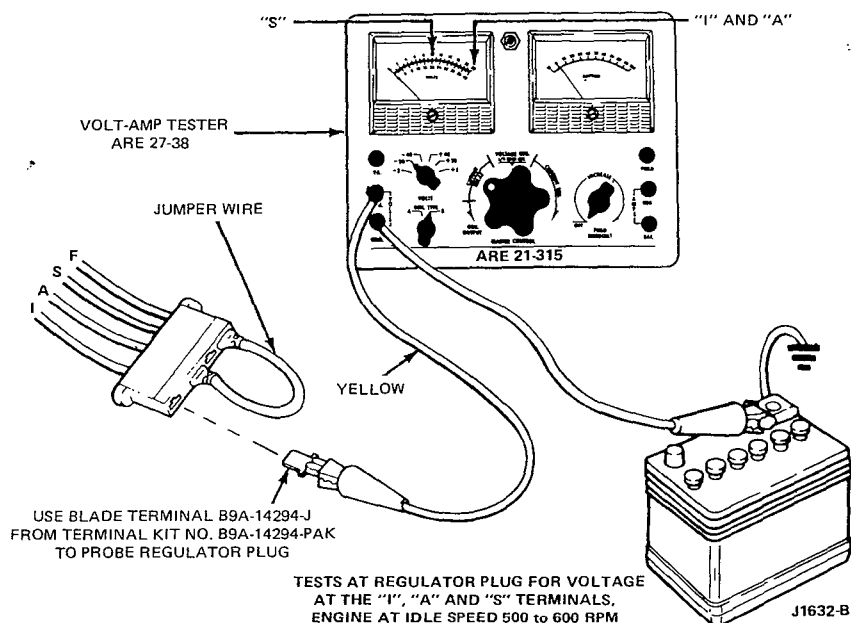

FIG. 5 Regulator Plug Voltage Tests
6. If the voltmeter reading does not increase one volt above battery voltage, proceed to the next step before performing other tests, the field circuit (regulator plug to alternator) must be checked for a grounding condition. If the field circuit is grounded and the jumper wire is used as a check at the regulator wiring plug from the A to F terminals (Figure 5), excessive current will cause heat damage to the regulator wiring plug terminals and may burn the jumper wire (Figure 5). Also, if the field circuit was grounded, the connector wire inside the regulator will be burned open and an under voltage condition will result.
1. If the field circuit is satisfactory, disconnect the regulator wiring plug at the regulator and connect the jumper wire from the A to the F terminals on the regulator wiring plug (Figure 5).
1. Connect the positive lead of the voltmeter to the S terminal of the regulator wiring plug (Figure 5). Then, turn the ignition switch to the ON position. Do not start the engine.
2. With the engine idling, connect the positive lead of the voltmeter to the S terminal and then to the I terminal of the regulator wiring plug (Figure 5). The voltage of the S circuit should read approximately 1/2 of the I circuit.